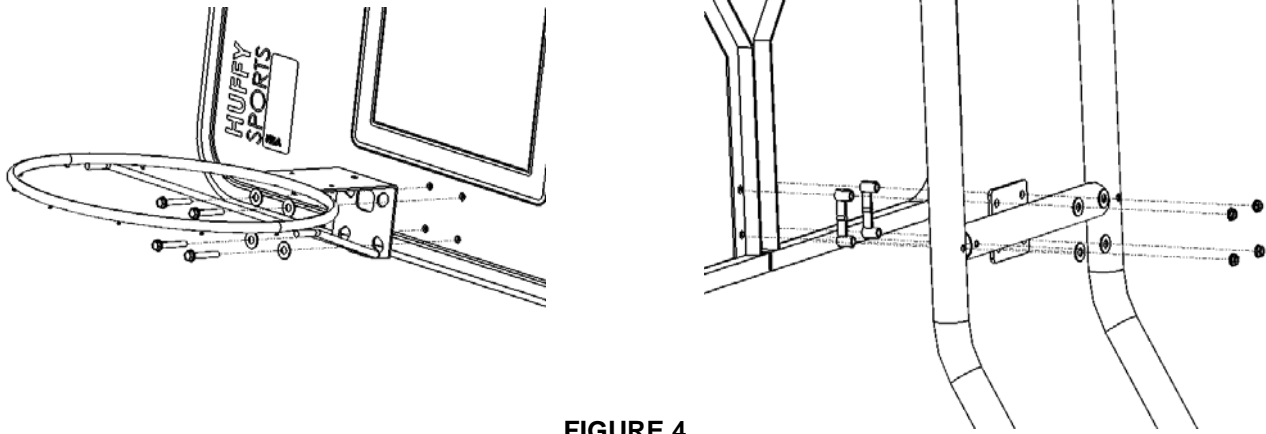

FIGURE 4
5. Attach the rim to the front of the backboard and to the post assembly on the opposite side of the backboard with the 5/16" bolts, flat washers and nuts as shown in **FIGURE 4**. NOTE: Remove the protective film from the front face of the backboard before mounting the rim. Make sure to place the 5/16" plastic spacers between the backboard frame and the plate of the cross brace.